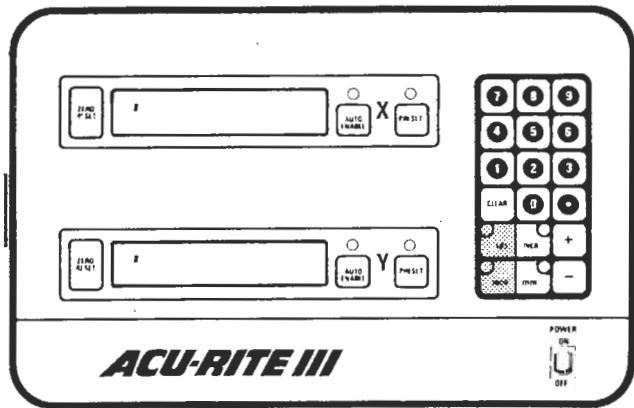

Figure 3-4. Console Status: Power On
- Flip the console POWER switch to ON (see Figure 3-4). The ABS and INCH keys and fault indicator(s) at the left of the display(s) will light and the display(s) will be blank, indicating that the fault circuits are working properly in the absolute mode.